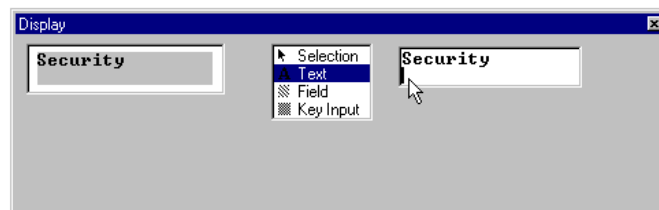

Figure 2-45 Display - Second Line
4. Click at the beginning of the second line in the edit box (Figure 2-45).